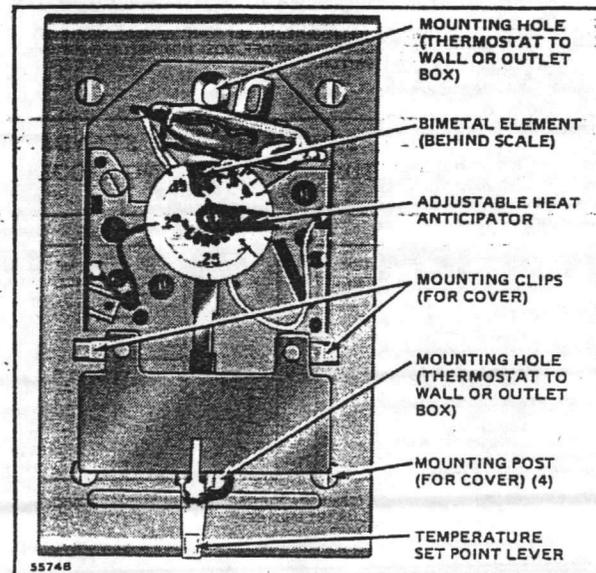

FIG. 1—INTERNAL VIEW OF THE T822 WITH ADJUSTABLE HEAT ANTICIPATOR.
2. Pull about 4 in. [101.6 mm] of wire through the wall or into the outlet box. Attach the thermostat wires to the appropriate terminals on the back of the thermostat base (Fig. 1). Set the heat anticipator (T822D) according to instructions under Heat Anticipator Setting in the SETTING AND CHECKOUT section. Push excess wiring through hole and plug any opening to prevent drafts that may affect thermostat performance.